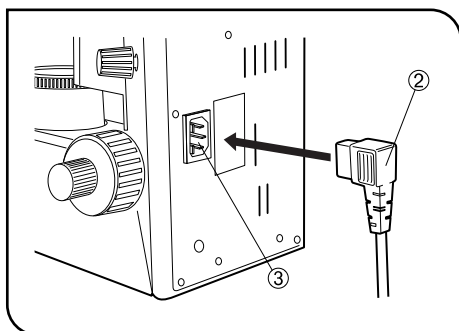

Fig. 31
## 8 Connecting the Power Cord (Figs. 31 & 32)
1. Connect the power cord plug ② to the AC receptacle ③. (Fig. 31)